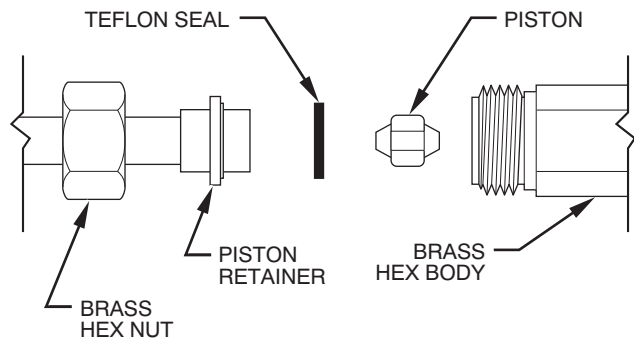

Fig. 26 – Refrigerant Flow-Control Device (For FB and FMA4P)
2. Recover remaining refrigerant from tubing and coil through gage port on vapor-tube service valve. Disconnect refrigerant (liquid) tube from piston body. (See Fig. 26.)